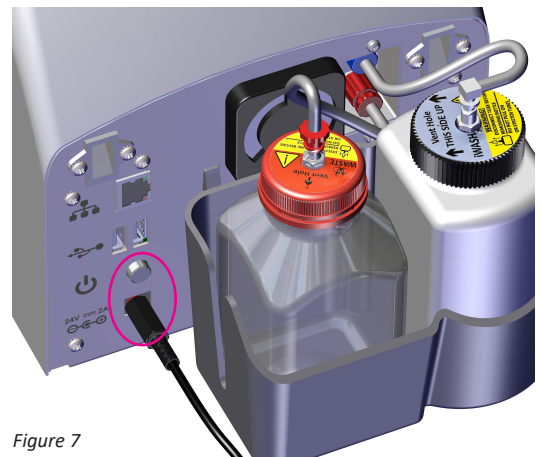

Figure 7
1. Connect the Power Cord to the Power Supply (Figure 7).
1. To power the unit on, press the On/Off switch located on the back of the instrument (Figure 7).